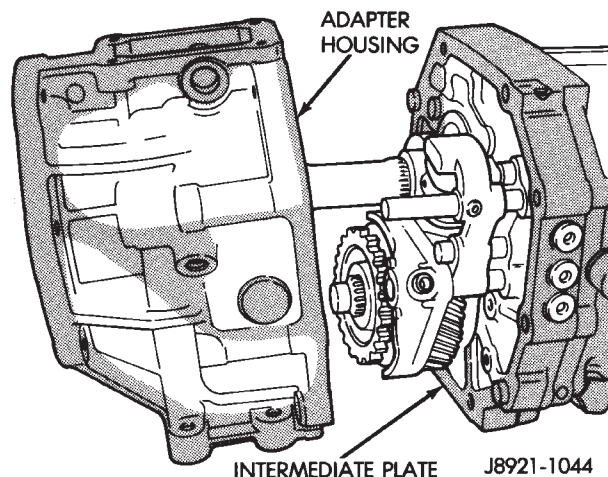

Fig. 41 Install Adapter/Extension Housing
(8) Apply a 1/8 to 3/16 inch wide bead of Threebond® Liquid Gasket TB1281, P/N 83504038, to sealing surface of adapter/extension housing, making sure to keep sealer bead to inside of bolt holes.
(9) Install adapter or extension housing on intermediate plate (Fig. 41). Tighten housing bolts to 37 N·m (27 ft. lbs.) torque.